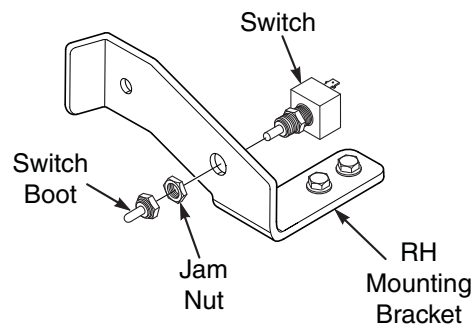

Figure 3. Assemble Switch onto RH Bracket
4. Install the light switch and rubber switch boot to the RH light mounting bracket. See Figure 3.